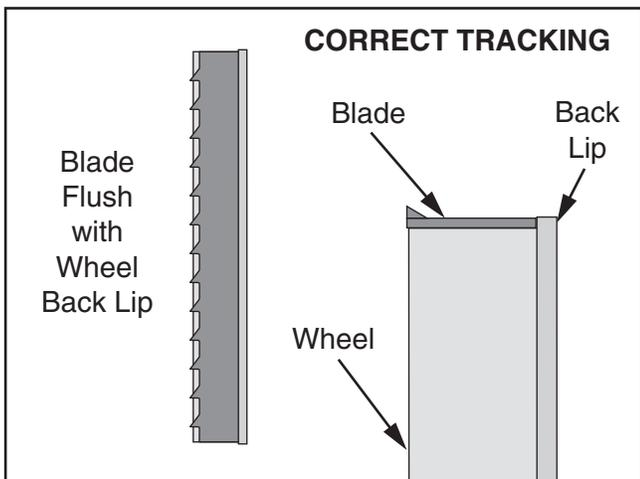

Figure 10. Correct tracking of blade on wheel.
- Verify blade is flush against back lip of upper and lower wheels (see **Figure 10**).